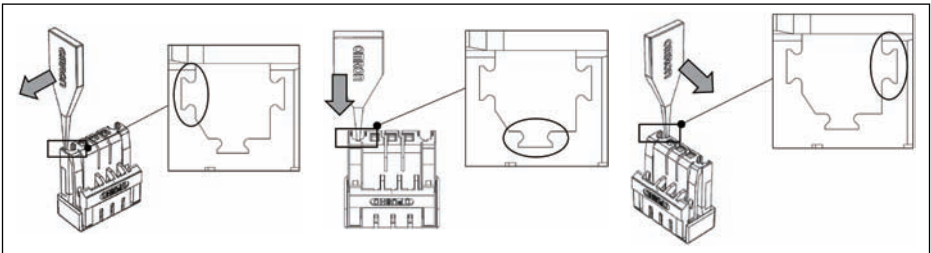

fig.2
- (2) Align the OMRON logo on the coding key with insertion hole as fig.2 and insert the coding key straight into insertion hole of the connector until the end.